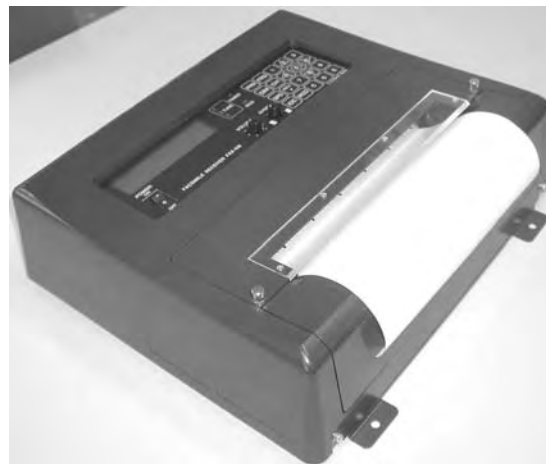

Figure 6
6. Attach the paper cutter and tighten its two screws. The recording paper should be protruding past the paper cutter. See Figure 6.